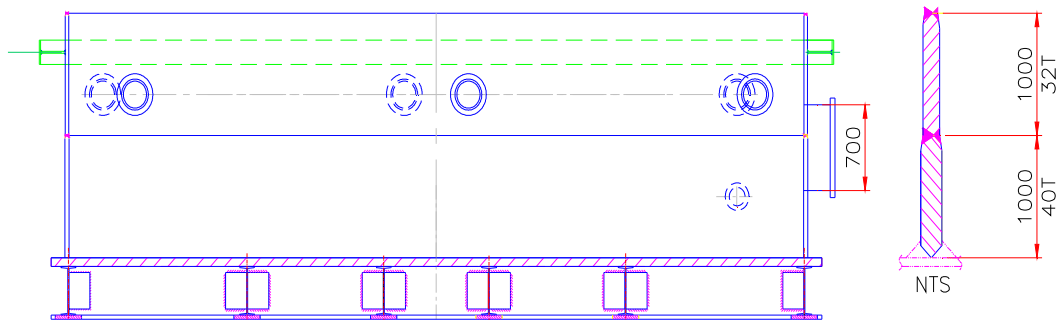

Fig. 8. Stress relieving - 1st and 2nd Shell course
- 7.1.3. Structure with bottom plate, 1st shell course and 2nd shell course (as shown in Figure 8) shall be subjected to thermal Stress relieving.